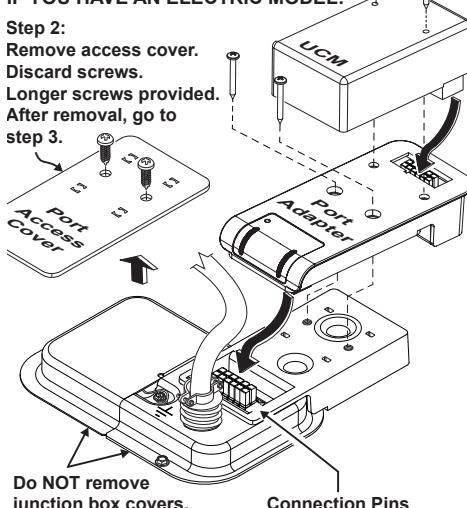
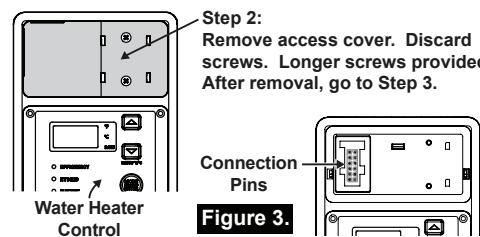

Figure 2.
Figure 3.
**Step 3:** Plug the port adapter into the water heater at its connection pins. See Figure 2 or Figure 3.
**Step 4:** Secure the port adapter with the new screws (2). The new screws are provided. See Figure 2.
**Step 6:** Plug the UCM into the port adapter. See Figure 2. Also, refer to your UCM user manual for any additional instructions.
*NOTE: The size and shape of your UCM may vary from what is shown in Figure 2.*
**Step 7:** Secure the UCM to the port adapter with screws (2). Screws are provided with the UCM. See Figure 2.